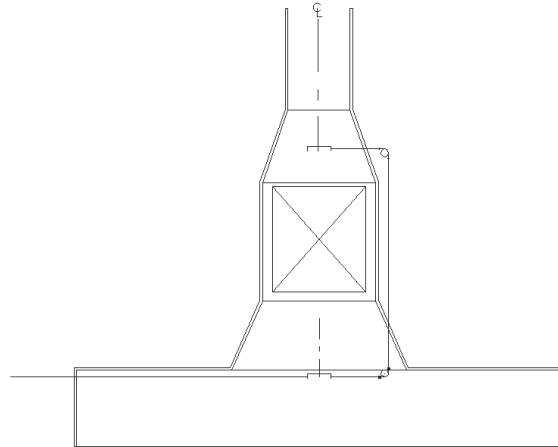

Figure 3-12.4. Detector Placement for Single Electrostatic Precipitator.
If an electrostatic precipitator is located at or near the base of an exhaust duct, one (1) detector must be located below the precipitator and an additional detector must be located above the precipitator in the duct opening. See **Figure 3-12.4.**